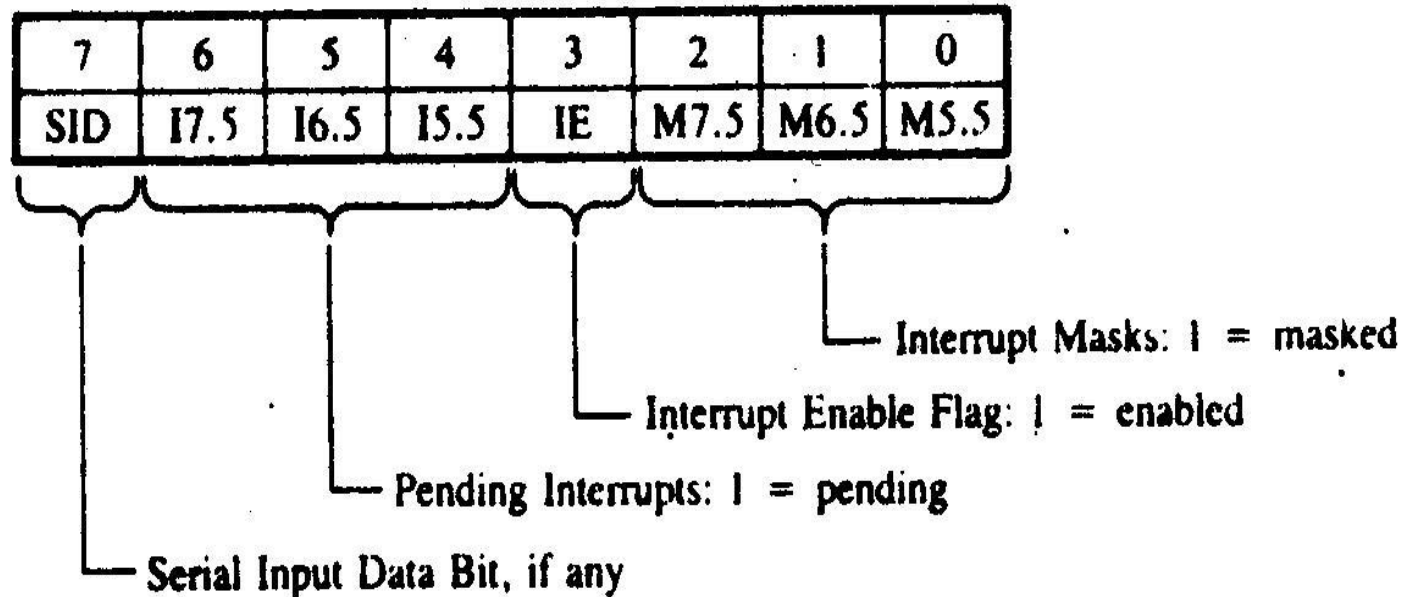

FIGURE 12.7
When one interrupt request is being served, other interrupt request may occur and remain pending. The 8085 has an additional instruction call RIM (Read Interrupt Mask) to sense these pending interrupts (Figure 12.7).
- ❑ To read interrupt masks, This instruction loads the accumulator with 8 bits indicating the current status of the interrupt masks (Figure 12.7).
- ❑ To identify pending interrupts. Bits D_4 , D_5 , and D_6 (Figure 12.7) identify the pending interrupts.
- ❑ To receive serial data bit D_7 is used (Figure 12.7).